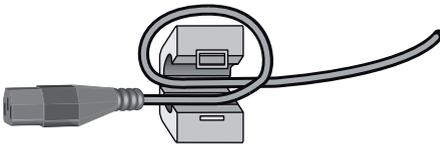

Fig. 20
- Make a loop in the power cord and lay the loop inside the ferrite sleeve as shown in fig. 20.